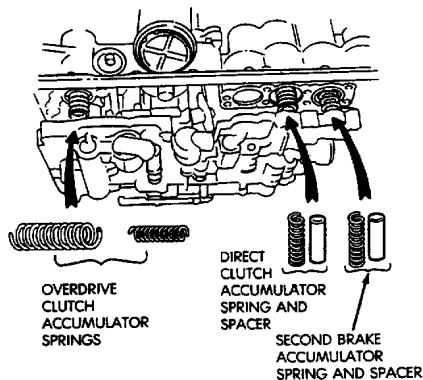

Fig. 15 Accumulator Springs
- (7) Lower valve body and remove overdrive clutch accumulator springs; direct clutch accumulator spring and spacer; second brake accumulator spring and spacer (Fig. 15).